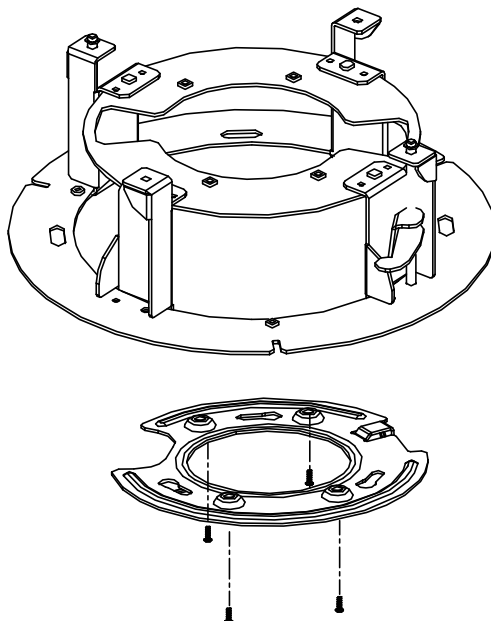

Figure 2-27 Fix the Base Plate to In-ceiling Bracket
2. Fix the base plate onto the in-ceiling bracket with the 4 screws in the package (supplied). Make sure that the cable holes of the base plate are aligned to the cable holes of the bracket, as shown in Figure 2-27.